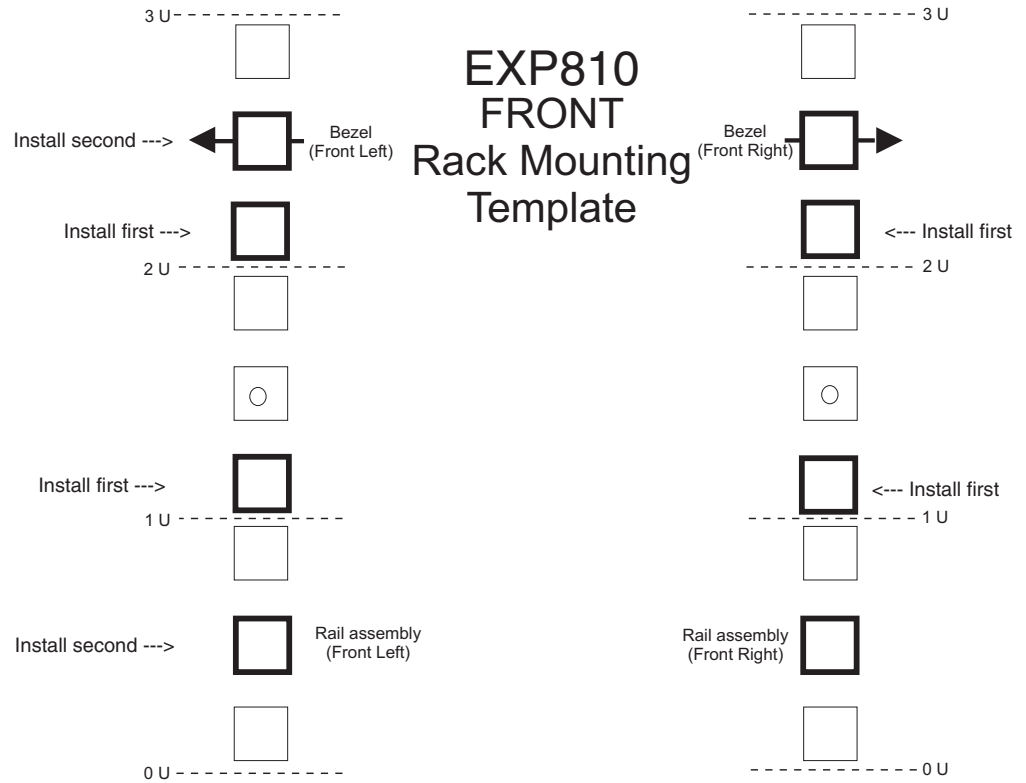
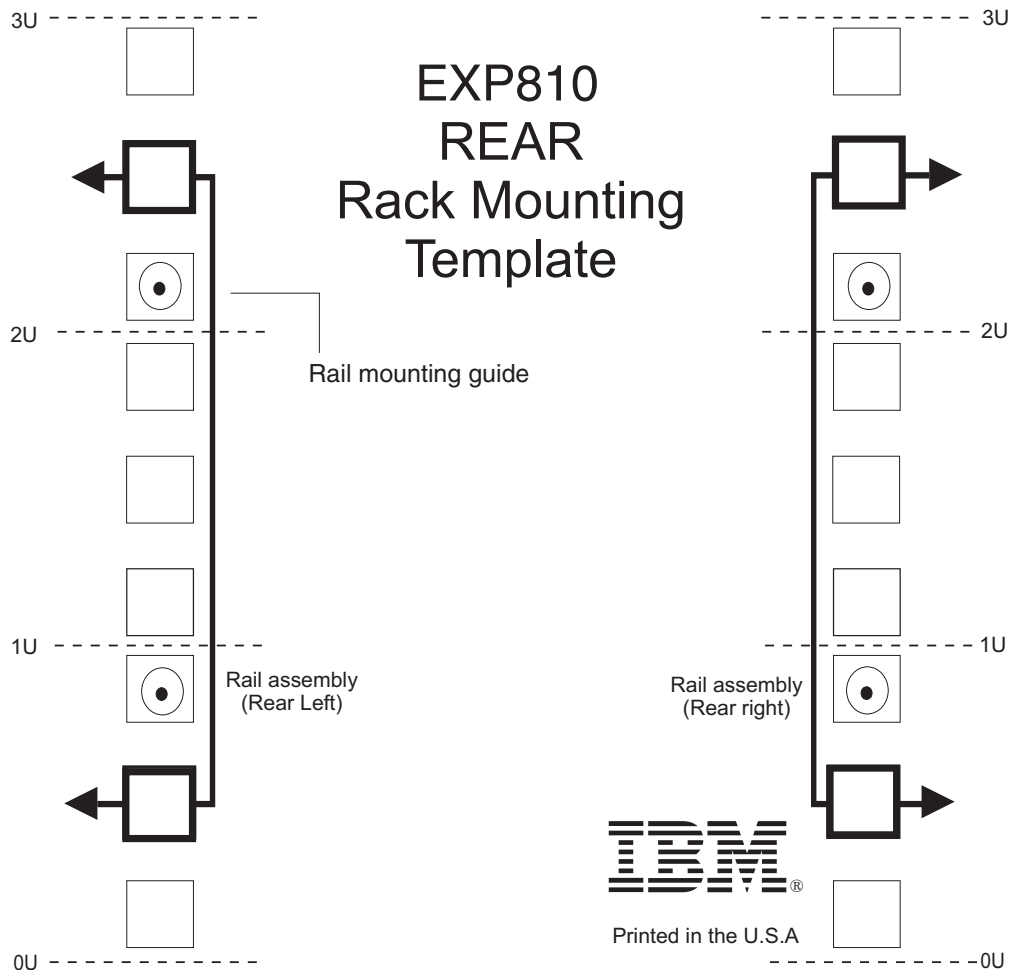

Figure 15. Front rack mounting template
Figure 16. Rear rack mounting template
Use the following templates (Figure 15 on page 31 and Figure 16 on page 32) to identify the proper locations for inserting M5 screws when mounting the support rails and EXP810 to a rack. The locations for the M5 screws are highlighted in the templates.
Attention: Use the rack mounting template provided in Figure 15 on page 31 and Figure 16 on page 32 to locate the proper rack mounting holes for installing the support rails into the rack.
- Hold the back of the rail against the inside of the rack-mounting flange. Make sure the rail mounting guide pins are in the correct holes. See Figure 16 on page 32 for illustration.
Note: Be sure to install the screws labeled *install first* in Figure 15 on page 31.